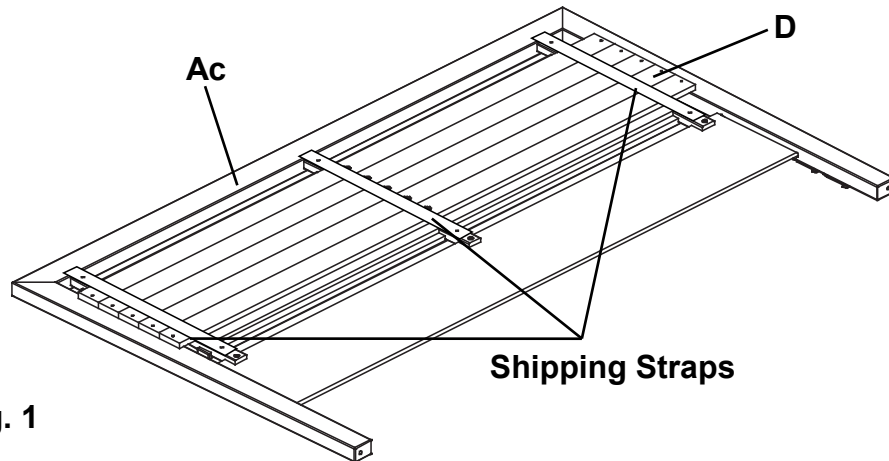

Fig. 1
1. Remove the Slats (D) from the back of the Headboard (Ac) and place them off to the side. See Figure 1.